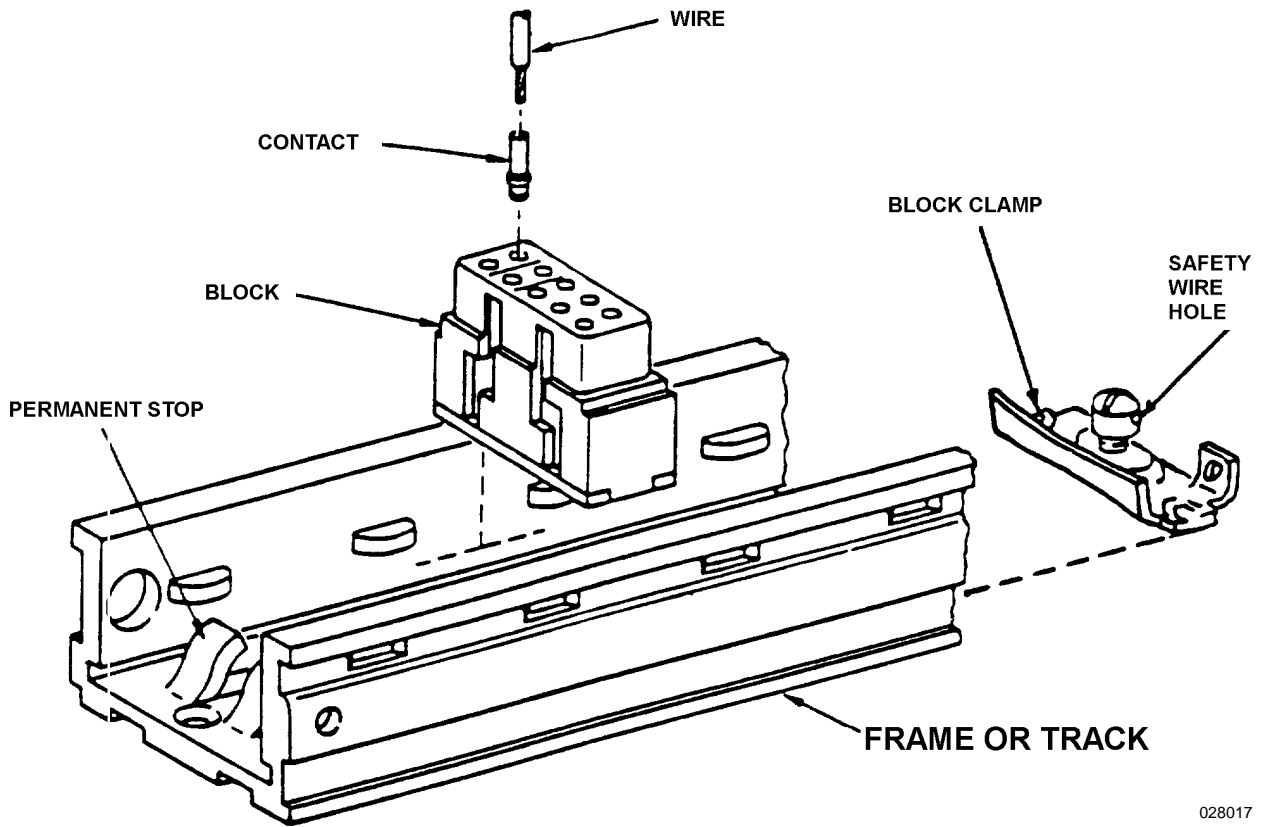

Figure 17. Feedback Terminal Junction Assembly
32. SERIES I BLOCK RAIL/BACKET INSTALLATION AND REMOVAL. Install the blocks in the specified MIL-T-81714 track or bracket as follows (Figures 17 through 21):
- a. Loosen screw in locking clamp and slide clamp to end of rail opposite the stop (Figures 17 and 20).
- b. Insert block into rail next to locking clamp with block index indicator on grommet on same side as the rail indexing indicators. A block can only be installed one way in the rail (Figures 17 and 20).